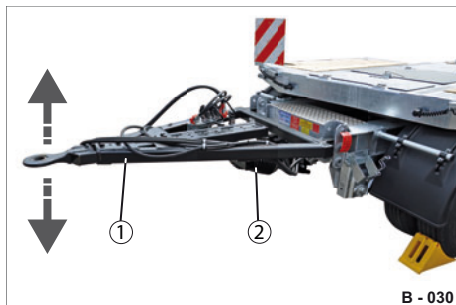

Fig. 51 Height adjustment - variety 3
The height of the drawbar is regulated with the one-piece height setting device (Fig. 51/2).
- Check the height of the drawbar (Fig. 51/1) before the uncoupling process.